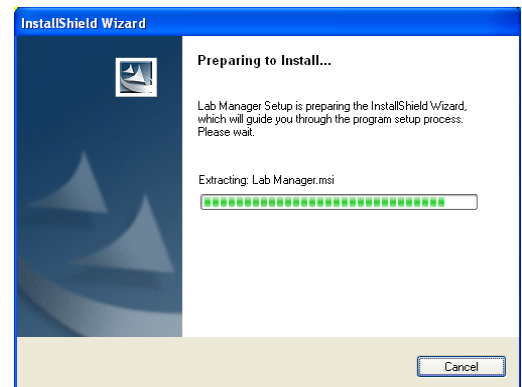

Fig 1
3. When the installation begins, the program will say; **Preparing to Install.** Fig 1.
2. When the installation begins, the program will say; **Preparing to Install.** Fig 1.
6. Click on the **Create Company Database** button at the bottom of the screen and you will see a pop-up window (Fig 1). Use this window to locate where the Master Database will be placed. It will normally be in the C:\LMDBs folder. To use the default folder, simply click **OK**. This process may take several minutes.